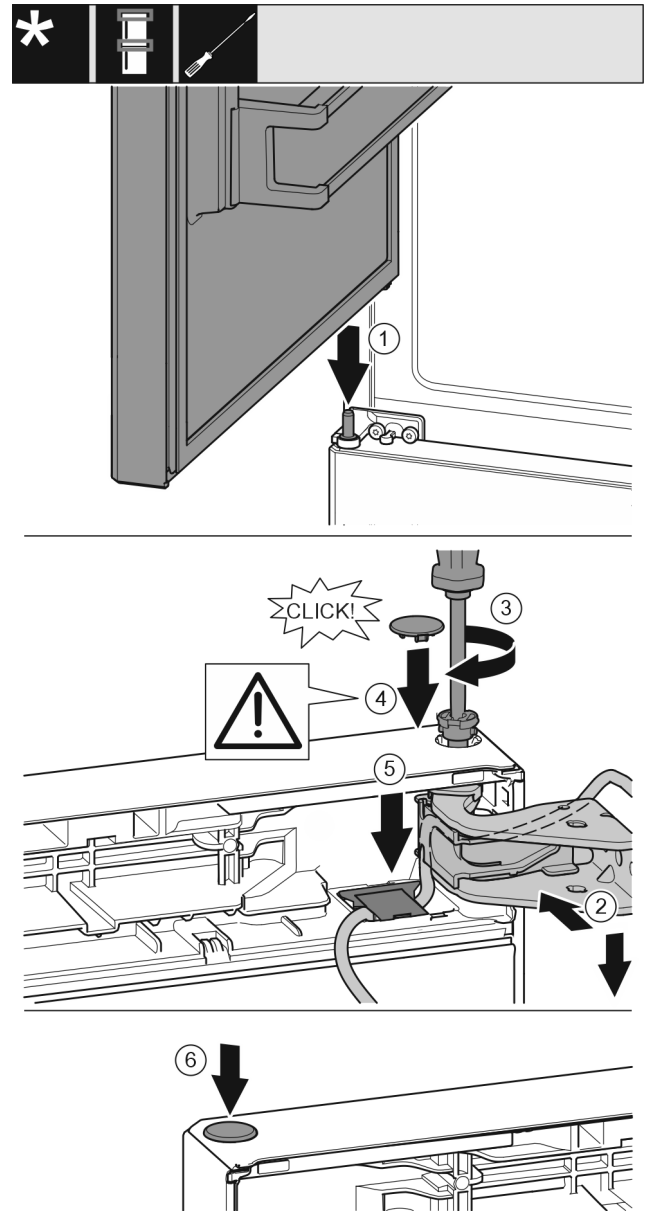

Fig. 43
- Position to top door onto the center bearing pin Fig. 43 (1).
- Align the top of the door with opening in the bearing bracket. Fig. 43 (2)
- Insert the pin Fig. 43 (3) and tighten it with the screwdriver.
- Mount the safety cover Fig. 43 (4) to protect the door: Insert the safety cover and check whether it is positioned on the door. If so, insert the pin completely.
- ▶ Insert the cover Fig. 43 (5) and press it down until it snaps down.
- ▶ Insert the plug Fig. 43 (6).